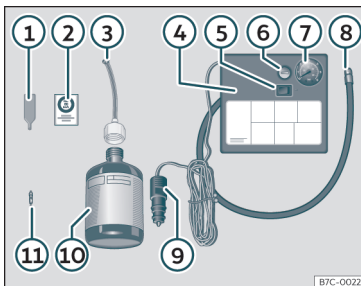

Fig. 57 Standard display: contents of the anti-puncture kit.
- Unscrew the tyre valve cap and insert. Use the >>> Fig. 57 ① tool to remove the insert. Place it on a clean surface.
- Shake the tyre sealant bottle vigorously >>> Fig. 57 ⑩.
- Screw the inflator tube >>> Fig. 57 ③ into the sealant bottle. The bottle's seal will break automatically.
- Remove the lid from the filling tube >>> Fig. 57 ③ and screw the open end of the tube into the tyre valve.
- Place the insert back into the tyre valve using the tool >>> Fig. 57 ①.
- Screw the compressor tyre inflator tube >>> Fig. 57 ⑧ into the tyre valve.
- Check that the air bleed screw is closed >>> Fig. 57 ⑥.
- Insert the connector >>> Fig. 57 ⑨ into the vehicle's 12-volt socket >>> page 151.
- Turn the air compressor on with the ON/OFF switch >>> Fig. 57 ⑤.
- Attach the sticker >>> Fig. 57 ⑦ to the instrument cluster, within the driver's visual field.